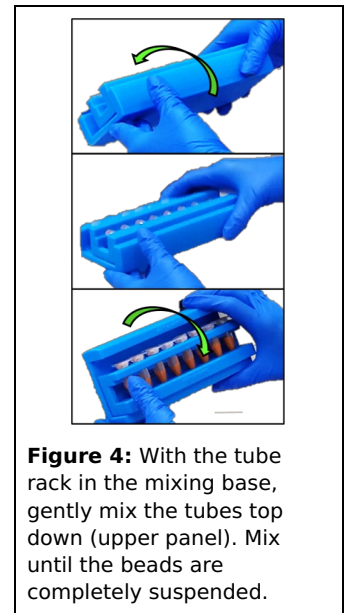

Figure 4: With the tube rack in the mixing base, gently mix the tubes top down (upper panel). Mix until the beads are completely suspended.
- Add 700 μL of Wash Buffer 1 to the tubes and then place the tube rack in the mixing base. Mix thoroughly by inversion, ensuring all beads have been detached from the tube walls and evenly suspended (Figure 4).